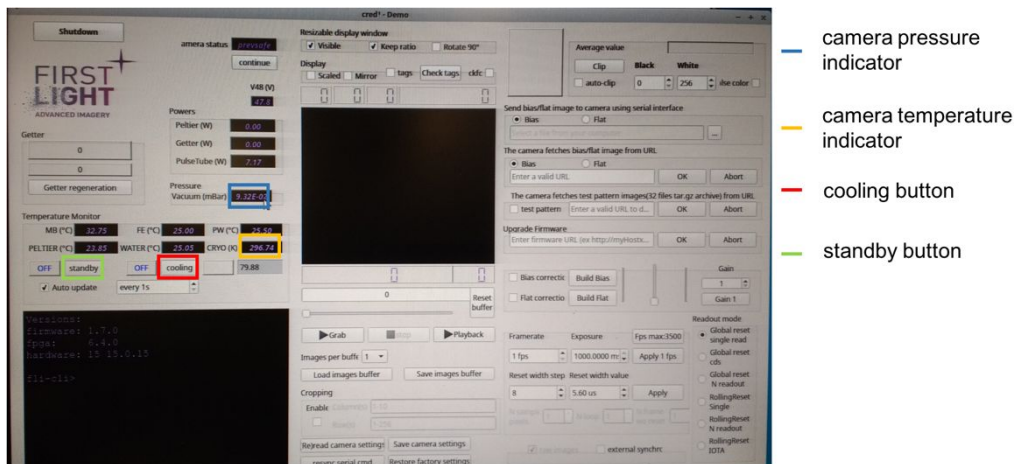

Fig 1: Screenshot of C-RED-ONE camera GUI highlighting locations of camera pressure and temperature indicators and cooling and standby buttons.
- c. Open a terminal and enter command "credonelmAcq". The window in Fig.1 should pop up.
11. Ensure again that the camera pressure reads  $1 \times 10^{-5}$  mbar before hitting the "cooling" button on the camera GUI (see Fig.1) to start cooling. [You have to click the word "cooling" rather than the "on/off" label next to it]. The "camera status" will change to "isbeingcooled".